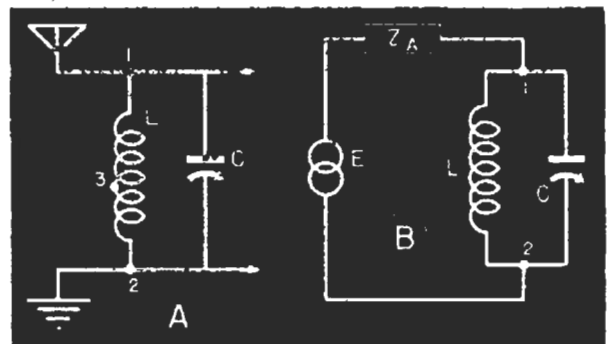

FIG. 19. Direct coupling.
Using the condenser gives an improvement over the direct coupling circuit shown in Fig. 19. In direct coupling, the selectivity is more sharp the higher  $Z_A$  becomes. The voltage division for off-resonant signals is not effective until the resonant circuit impedance has dropped to some value near (or below) the  $Z_A$  value. Therefore, when  $Z_A$  is small, the parallel resonant impedance must drop a great amount before off-resonant signals are eliminated. This means signals near the resonant frequency are not cut out, so the tuning is broad.
► The coupling methods shown in Figs. 19 to 22 for antenna circuits are essentially the same as those you will encounter in a host of other radio applications, the most common of which is the coupling together of the plate circuit of one tube and the grid circuit of the following tube. We will study these circuits in detail in later lessons, when we take up complete radio stages.